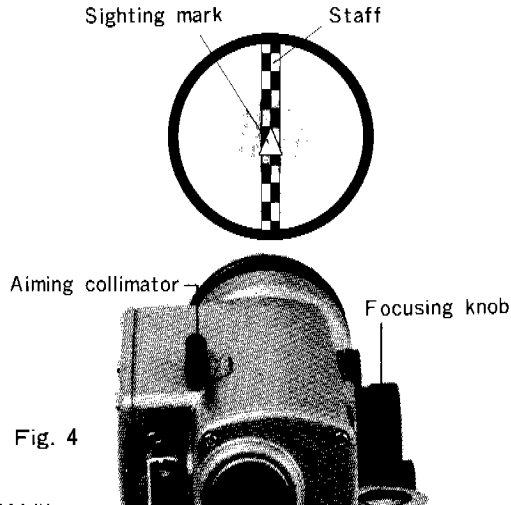

Fig. 4
- 1) Staff the telescope at the object using the collimator. (See fig. 4) Tighten horizontal clampscrew.